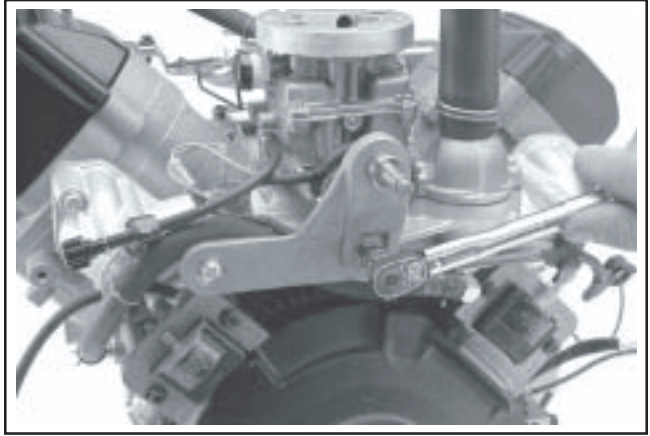
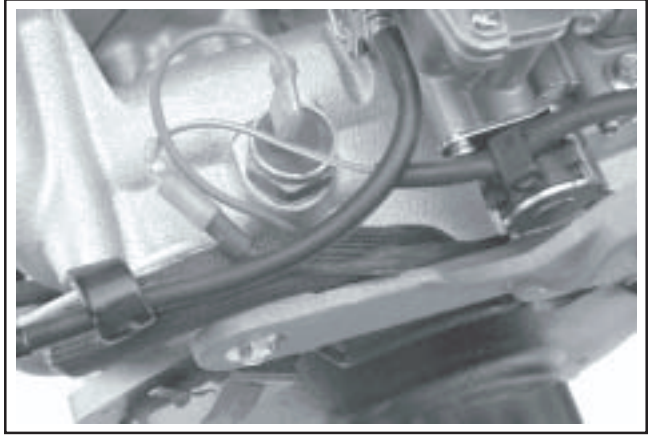

Figure 11-92. Installing Upper Pulley Bracket.
Figure 11-93. Wiring Through Intake Manifold Cutout and Behind Upper Bracket.
4. Install the upper fan mounting bracket to the intake manifold with the two screws. Torque the screws to **7.3 N·m (65 in. lb.)**. See Figure 11-92. The bypass hose and wires must be positioned within the cutout in the intake manifold, as shown in Figure 11-93. Be careful not to pinch the harness wires between the bracket and intake manifold when tightening.